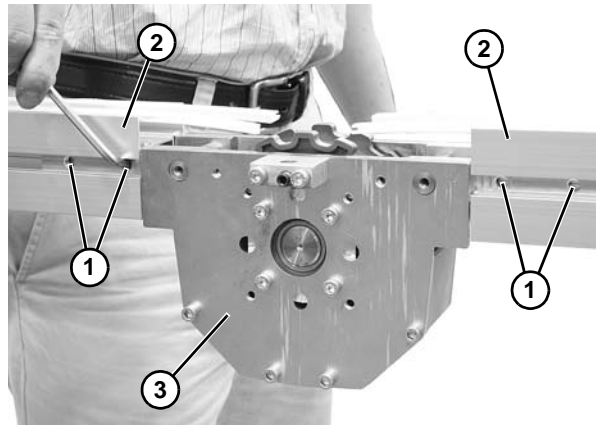

Figure 146
8. Loosen set screws (**Figure 146, item 1**) on both sides of conveyor.
9. Separate conveyor halves (**Figure 146, item 2**) and remove drive assembly (**Figure 146, item 3**).